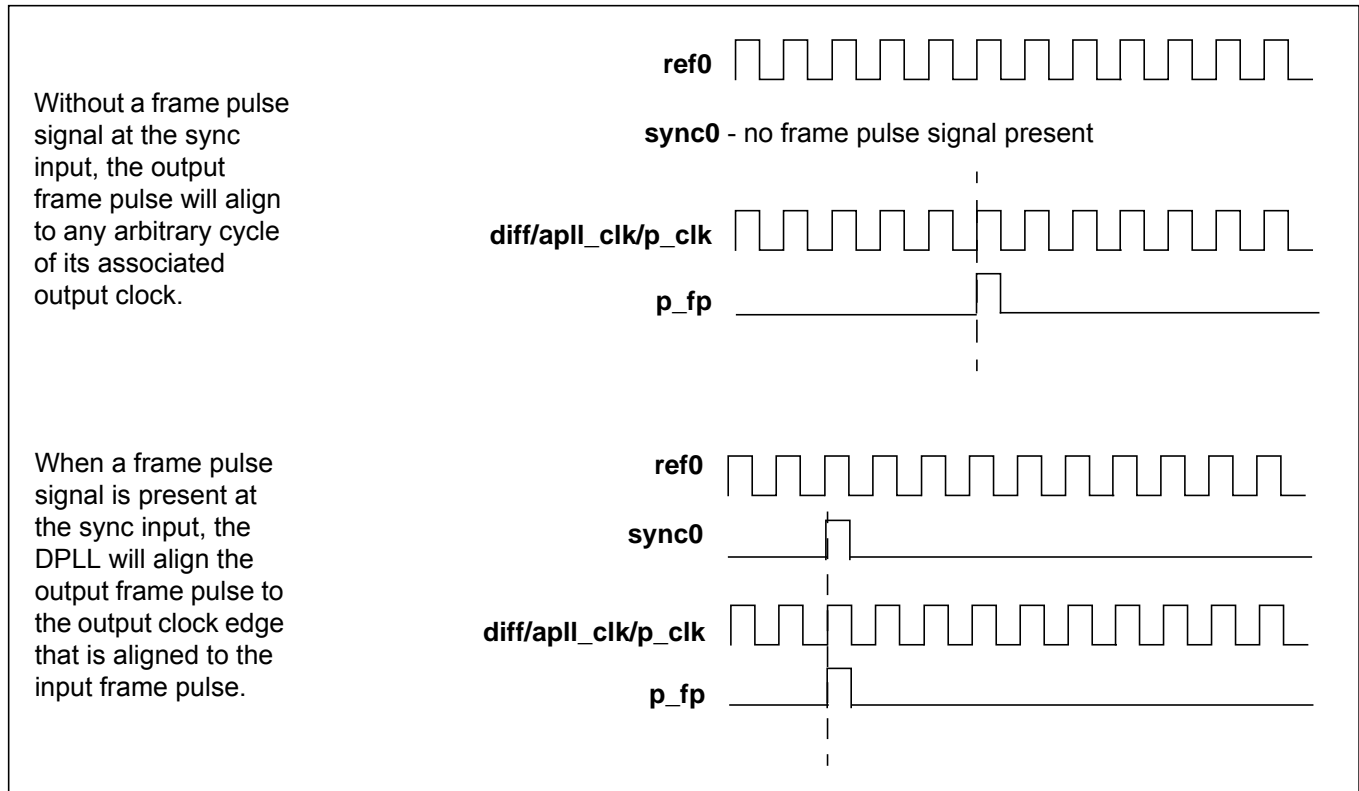

Figure 5 - Output Frame Pulse Alignment
In addition to the reference inputs, the Tx DPLL has one optional frame pulse synchronization inputs (**sync0**) used to align the output frame pulse. The sync0 input is selected with its corresponding ref0 input. Note that the sync input cannot be used to synchronize the DPLL, it only determines the alignment of the frame pulse outputs. A description of output frame pulse alignment is shown in Figure 5.